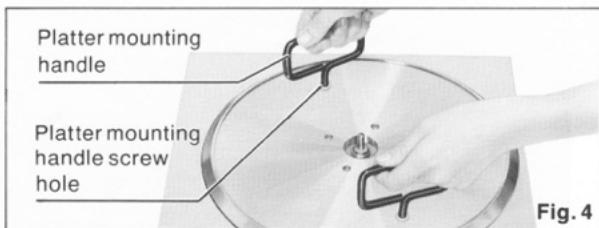

Fig. 4
4. Attach the turntable platter. (Figs. 4 and 5)